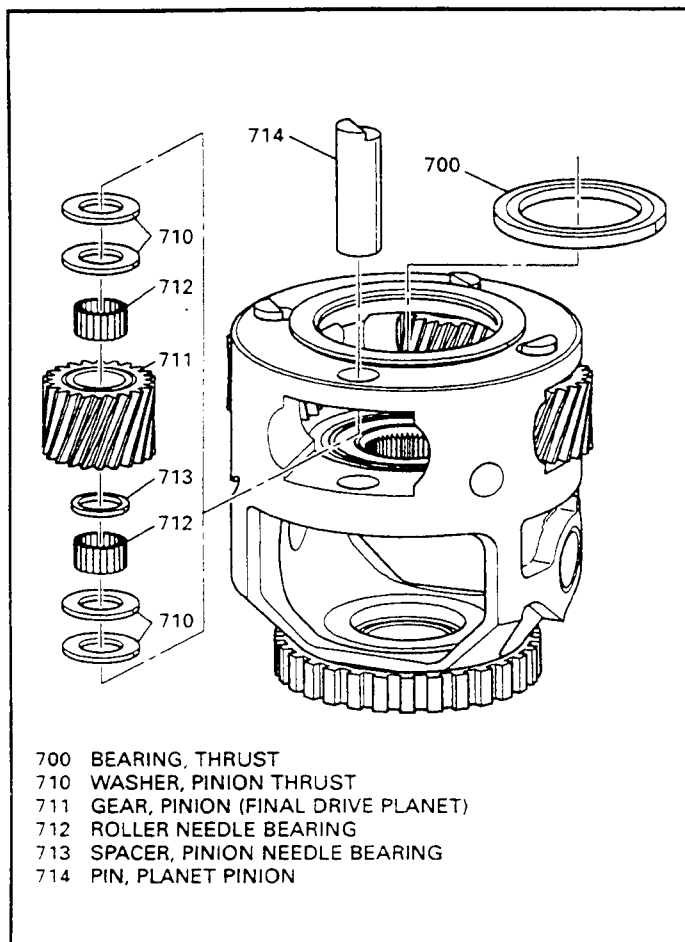

Figure 100
13. Remove the four planet pinion pins (714), four planet pinion gears (711), pinion thrust washers (710), needle roller bearings (712) and needle bearing spacers (See Figure 100).
14. Remove the final drive sun gear thrust bearing (700) as shown in Figure 100.
18. Install the sun gear to final drive carrier thrust bearing (700) into final drive carrier, as shown in Figure 100 and retain with "Trans-Jel".
19. Assemble the four planet pinion gears and the thrust washers into the final drive carrier, as shown in Figure 100.
20. Install the four planet pinion gear pins (714) in the final drive carrier to retain pinion gears as shown in Figure 100.